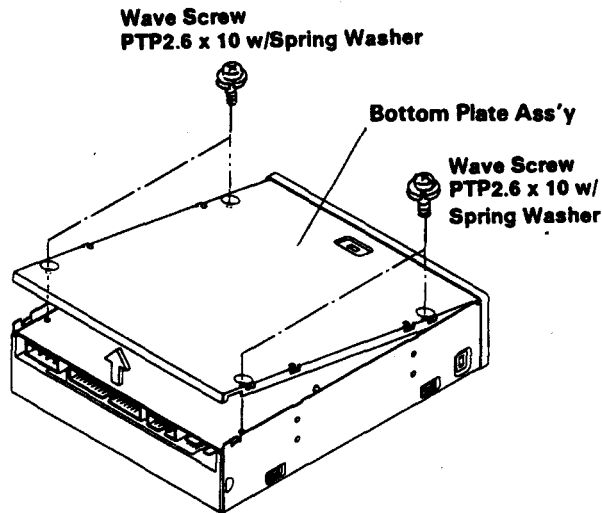

Fig. 4-2 Bottom Plate Ass'y Replacement
- Remove four Wave Screws (PTP 2.6x10) with spring washer securing Bottom Plate Ass'y. (Refer to Fig. 4-2)
- Lift up the Bottom Plate Ass'y as shown in Fig. 4-2. The Bottom Plate Ass'y can be taken out.
- Insert the Bottom Plate Ass'y to the groove of front panel and place it to proper position. (Refer to Fig. 4-2)